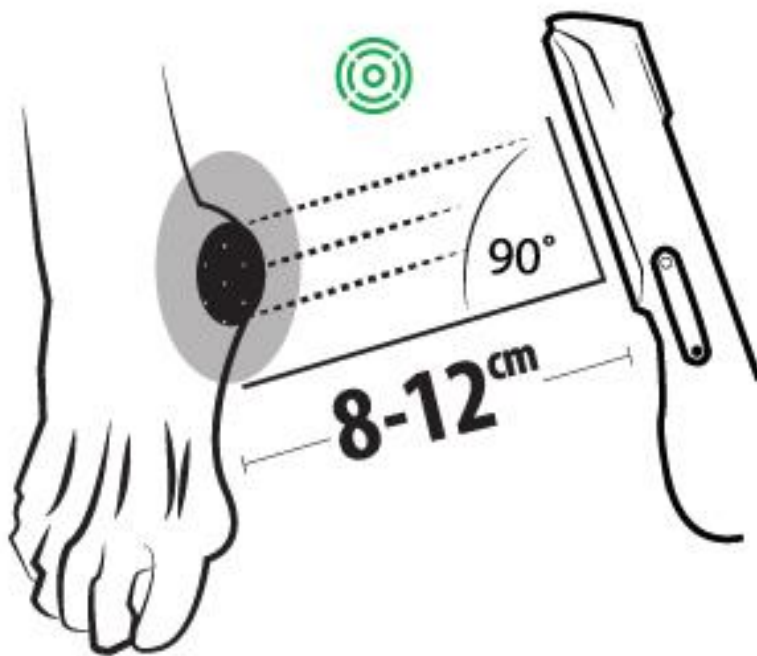

Figure 8: Overview of optimal distance and angling of the device relative to the wound
Green Light	The optimal distance (8-12 cm) between MolecuLight i:X and the wound being imaged has been reached. See Figure 8.
- Hold MolecuLight *i:X* such that the plane of the wound is parallel to the plane of MolecuLight *i:X*. See Figure 8.
Angling the device incorrectly may result in poor image quality. The Illumination Zone on the device should point directly at wound and be held at the recommended distance. Failure to do so may result in poor image quality. Refer to Figure 8.